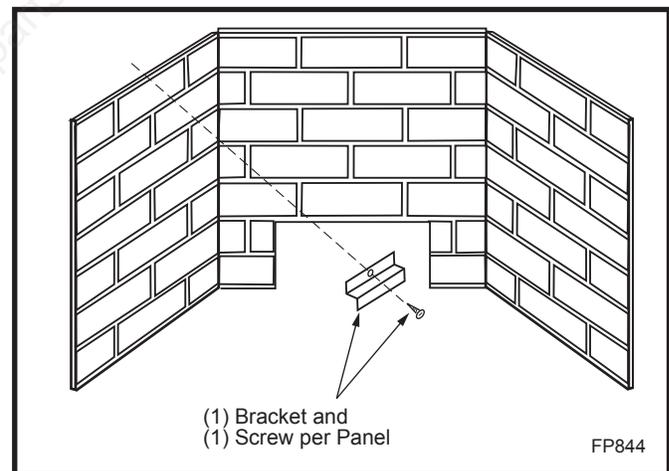

Fig. 24 Panel installation.
4. Use bracket as a template, place bracket against ceramic panel as shown in Figure 24. Bottom lip of bracket should hold panel in place. Drill one 1/8" diameter hole in combustion casing and secure back panel in place with one sheet metal screw and one bracket. Repeat procedures for other two panels.